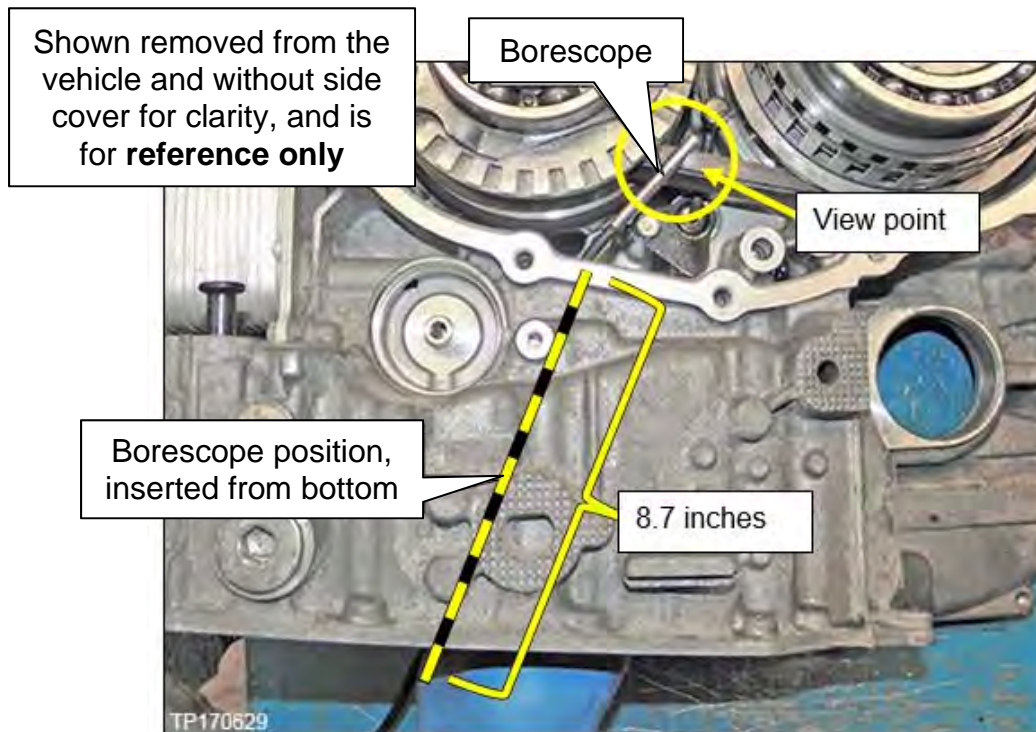

Figure 39
- iii. Insert the lens approximately 8.7 inches from the CVT case rim as shown in Figure 39 on page 25.